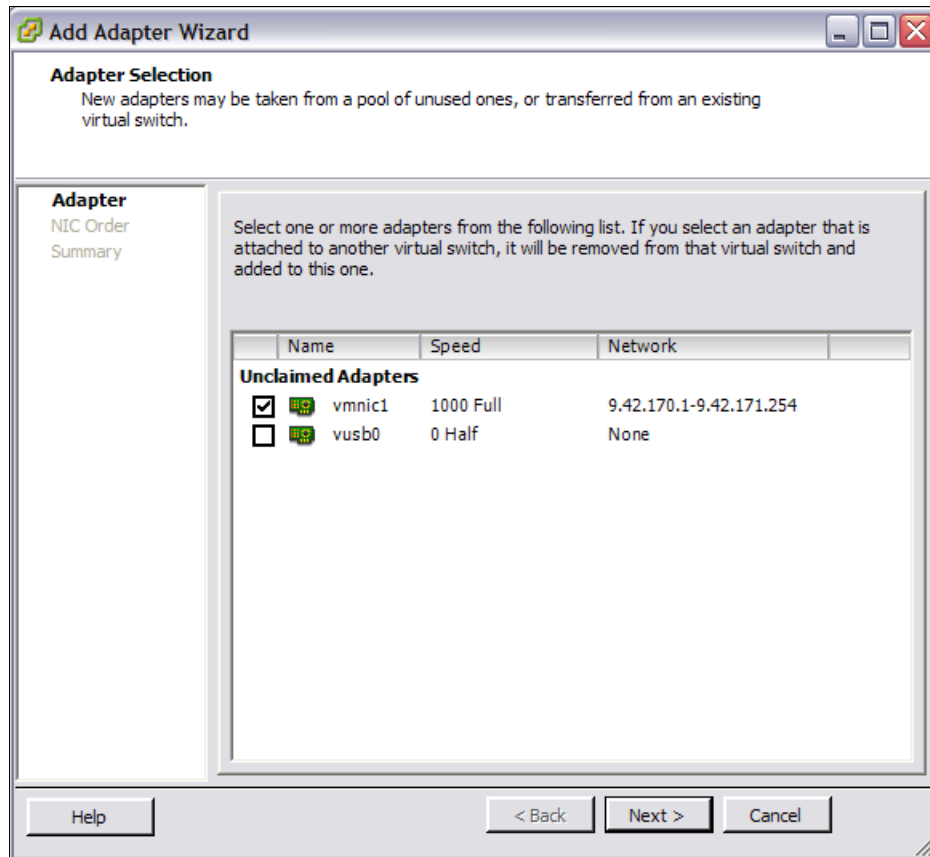

Figure 22-66 Adding second network adapter
3. Add the adapter (vmnic1 in our example), and click **Next**, **Next**, and then **Finish**. See Figure 22-66 on page 698.